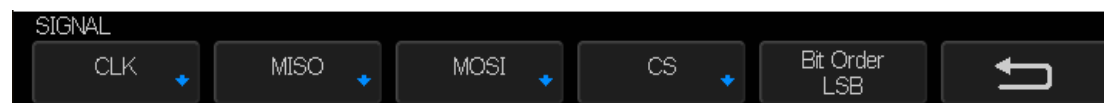

Figure 40: SIGNAL Menu
4. Press **Signal** softkey to enter the **SIGNAL** menu as Figure 40 shows.